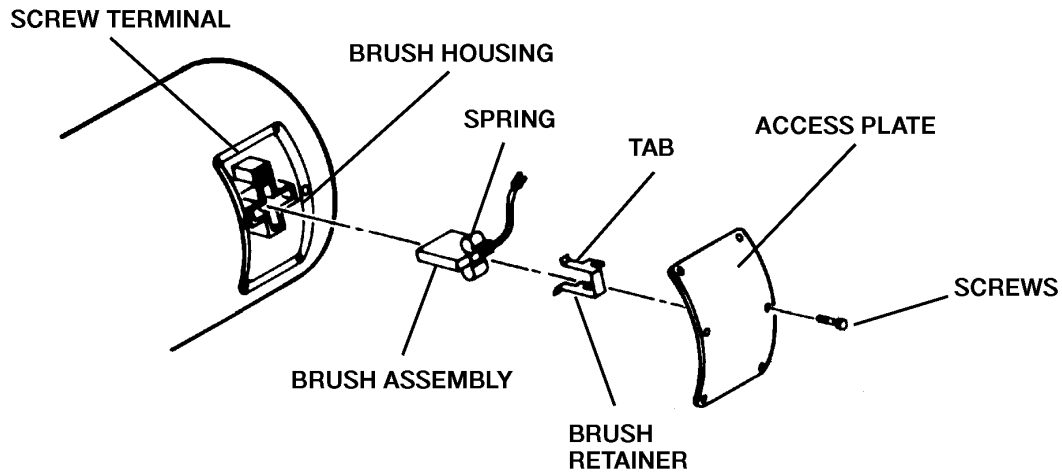

Figure 5. MOTOR BRUSH
2. To access the motor brushes, remove six screws securing the access plate and remove plate (see Figure 5).